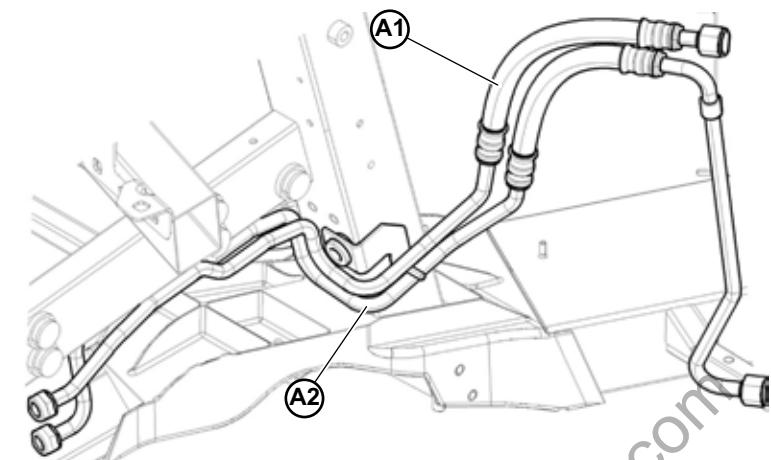

Fig.7
4. Remove and extract the front **A1** and **A2** gearbox oil circuit pipes (Fig.7).